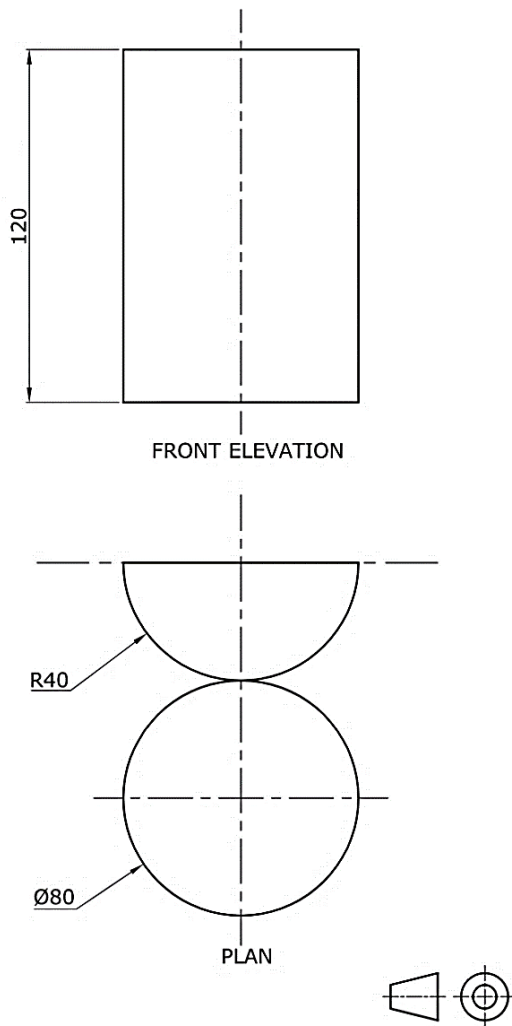

Figure 4b
- a) Draw, full size, Figure 4b, the plan and the elevation of the cylinder, semi - cylinder and cone, showing in each view the line and points of contact between them. (4)
- b) An 80 mm diameter sphere is placed on the horizontal plane and positioned in mutual contact with the cone and the cylinder. Show neatly the construction required so as to present on the two views **all** points of contact between them. (9)